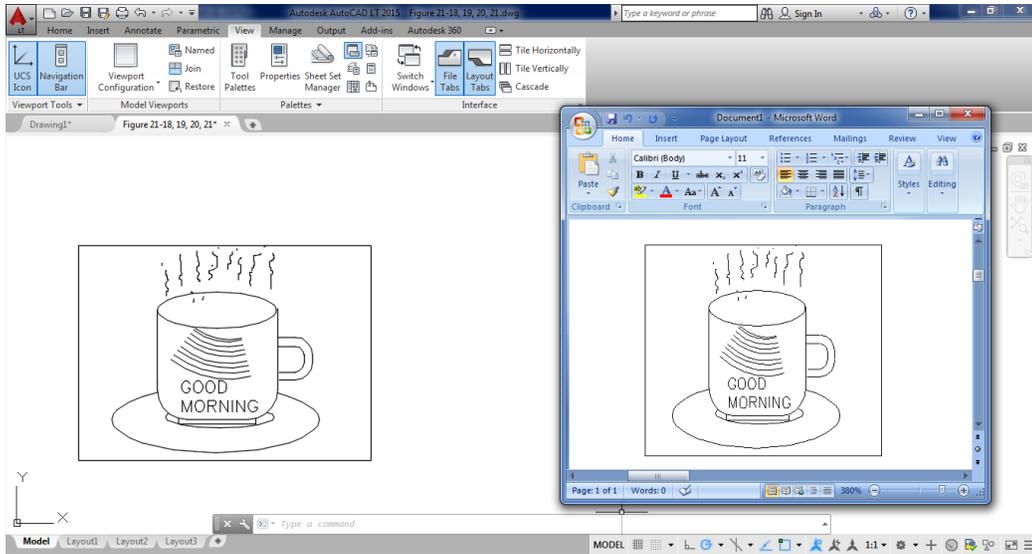
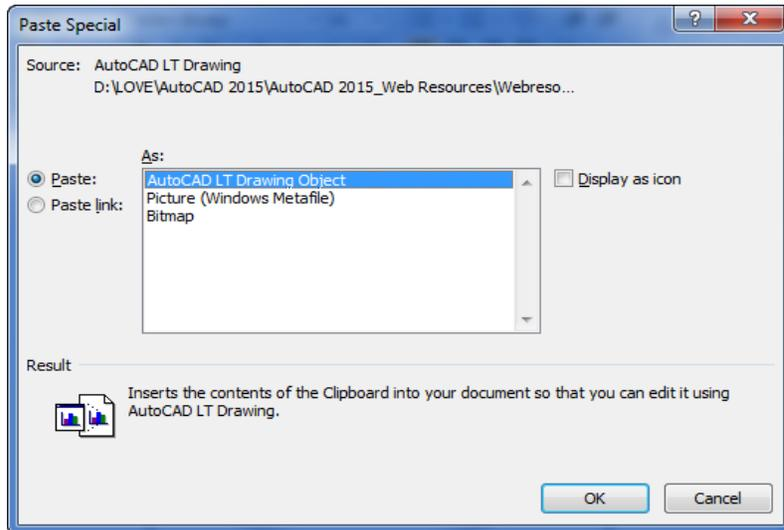

Figure 20-19 Pasting a drawing into the MS Word application
Figure 20-20 The Paste Special dialog box
5. After the objects are copied to the Clipboard, make the MS Word window active. To get the drawing from the Clipboard to the MS Word application (client), you need to paste it into the Word application. Choose the **Paste Special** tool from **Home > Clipboard > Paste** drop-down (Figure 20-19); the **Paste Special** dialog box will be displayed, as shown in Figure 20-20. In this dialog box, select the **Paste** radio button (default) for embedding, and then choose **OK**. The drawing is now embedded in the MS Word window.